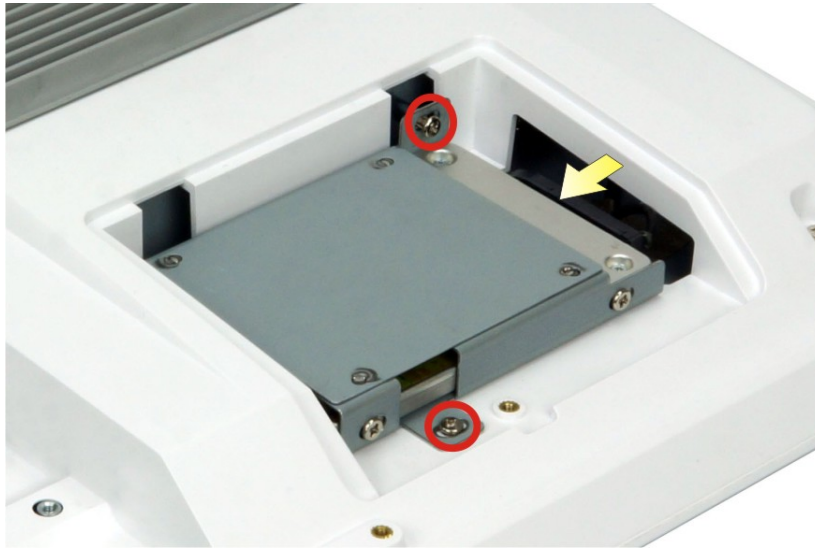

Figure 3-4: HDD Installation
Step 6: Connect the SATA cable from the BIS-W19C(F)-ULT4 to the rear of the HDD. Replace the HDD bracket by securing the two retention screws previously removed (**Figure 3-4**).